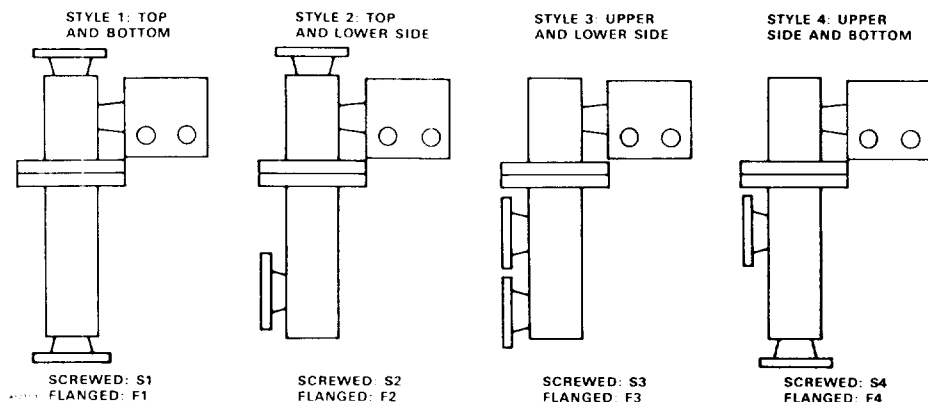

Figure 4. Cage Connection Styles
1. For complete drainage and cleaning of a cage with Style 2 or 3 connections (see figure 4), remove the pipe plug (key 17 or 26) from the bottom of the cage. Remove the liquid damper (key 29) if desired.